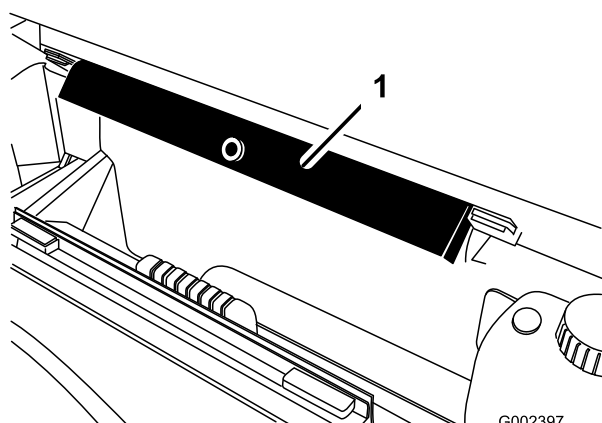

Figure 26
2. Remove bed support from storage brackets on back of ROPS panel (Figure 26).